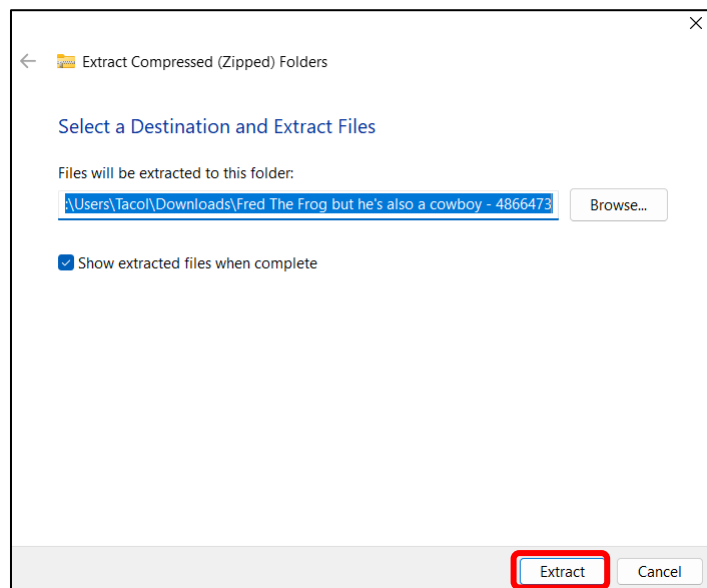

Figure 10: Final extraction dialog box. Note the Directory Path.
- 11) Click Extract. (Figure 10)